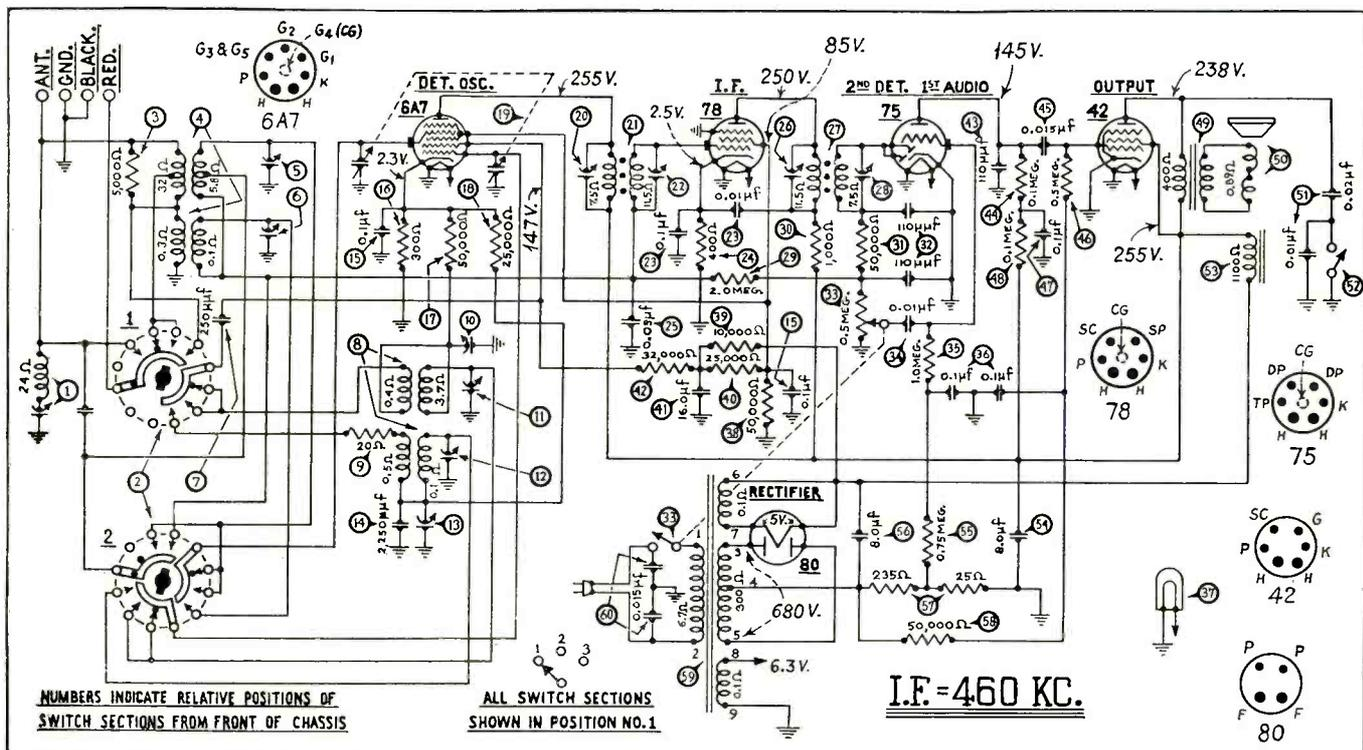

Fig. 1. Complete circuit of Philco Model 610.
The complete circuit of the Model 610 is shown in Fig. 1. An i-f wave-trap (1), which is tuned to 460 kc, is located in the antenna circuit.